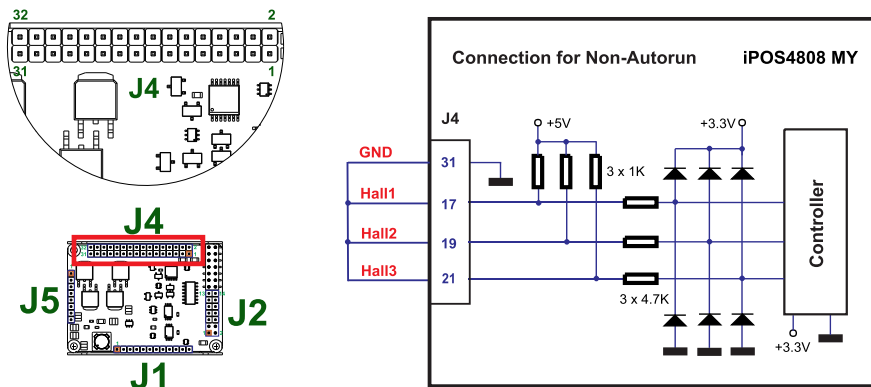

Figure 3.33. Temporary connection during power-on to remove the drive from Autorun mode
- Hardware – by temporary connecting all digital Hall inputs to GND, during the power on for about 1s (until the green led is turned on), as shown in *Figure 3.33*. This option is particularly useful when it is not possible to communicate with the drive.